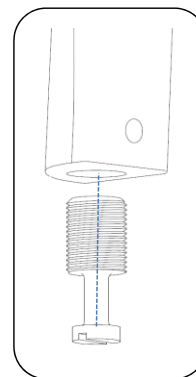

Fig. 1.2
2. Thread surface mount bolt into casting leg (4) places, as shown in Fig. 1.2.